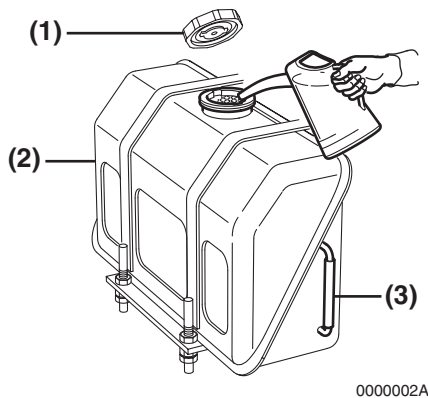

Figure 1
1. Clean the area around the fuel cap (**Figure 1, (1)**).
2. Remove the fuel cap (**Figure 1, (1)**) from the fuel tank (**Figure 1, (2)**).
3. Observe the fuel level sight gauge (**Figure 1, (3)**) and stop fueling when gauge shows fuel tank is full. NEVER overfill the fuel tank.
4. Replace the fuel cap (**Figure 1, (1)**) and hand tighten. Over-tightening the fuel cap will damage it.